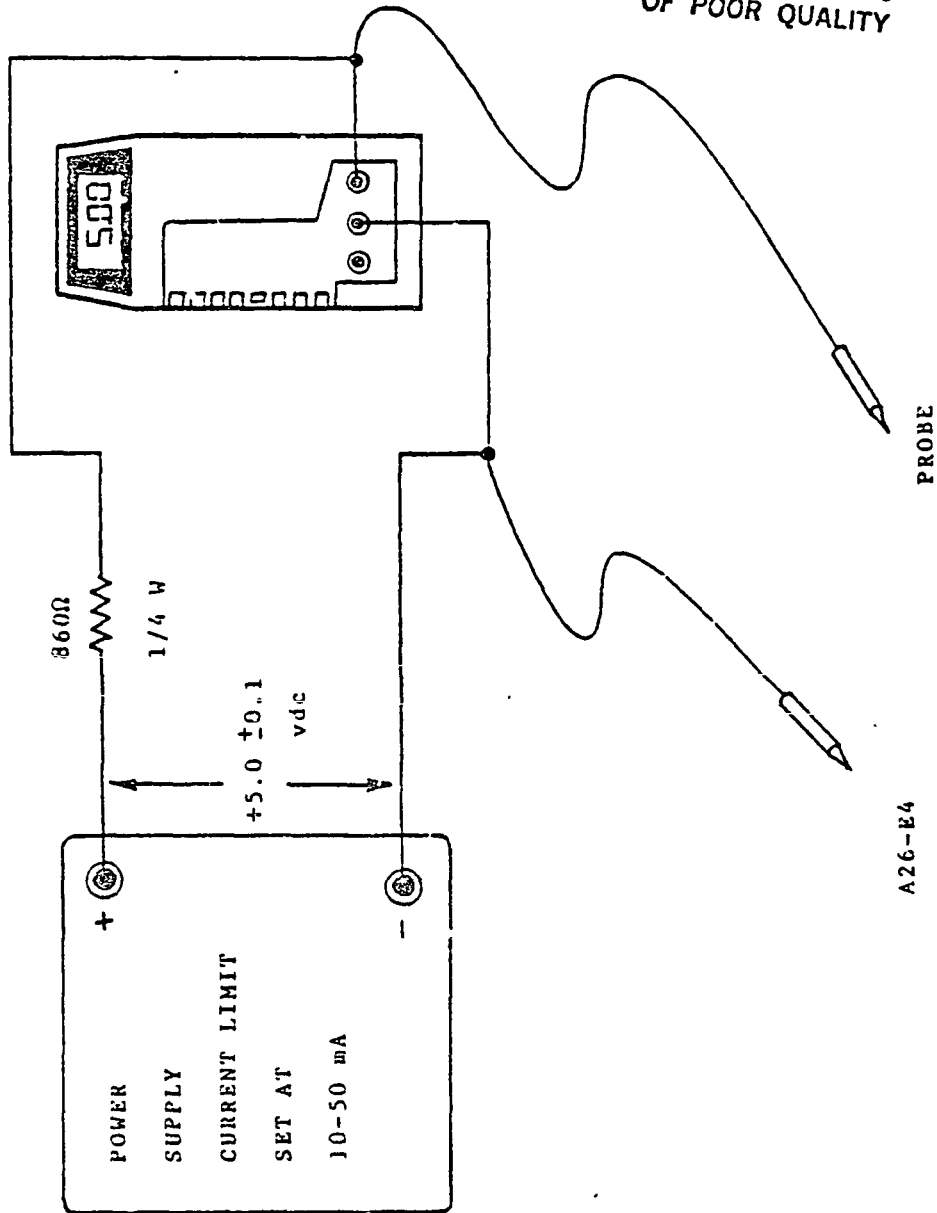

Figure 4.2-1. A10 Test Circuit
2.6	Issue commands as indicated in the second column of data sheet 4.2.2A. After each command is issued, use the test circuit in Figure 4.2-1 (or equivalent) to verify the output signal bit/state status at the points indicated on A10. (The status of test points is determined as follows): Logic "1" = -2.4 to +5.5 VDC Logic "0" = -1.0 to +1.5 VDC)